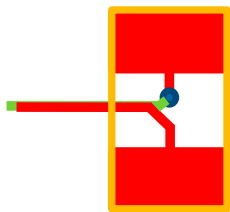

FIGURE 147. RECOMMENDED LAYOUT PATTERN FOR CURRENT-SENSE TRACES REGULATOR
12. The current-sensing traces must be laid out very carefully since they carry tiny signals with only tens of mV. For the current-sensing traces close to the power sense resistor (R_{SENx}), the layout pattern shown in Figure 147 is recommended. Assuming the R_{SENx} is placed on the top layer (red), route one current-sense connection from the middle of one R_{SENx} pad in the top layer under the resistor (red trace). For the other current-sensing trace (green trace), from the middle of the other pad on R_{SENx} top layer, after a short distance, via down to the second layer, and route this trace right under the top layer current-sense trace.
- Current-sensing resistors, sometimes called "shunts", require special considerations during their layout. These devices must be connected Kelvin style as shown in Figure 147 on page 119. The sensed voltage must be sensed exactly at the shunt terminals. A common problem encountered routing shunts, is that if one side of the shunt is connected to a common terminal, such as GND or BAT12, a layout tool will not flag an error if this connection is not geometrically correct! Verify that the shunts are Kelvin connected. Specific to the ISL78226, each of the six phase resistors measure current into or out of BAT12, and the flyback shunt measures current into ground. Voltages measured on shunts are always necessarily small. They are also the most common victim seriously enough affected by a layout error to render the layout inoperable. Do not route shunt traces near aggressors such as phase nodes. Shunt routing and the controller IC itself should be placed favoring the lower noise BAT12 side of the board. current-sense trace pairs should be placed side by side or one on top of the other as shown in Figure 147.